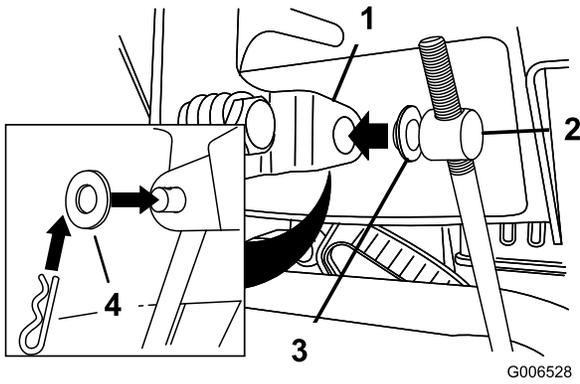

Figure 11
3. Remove the hairpin cotter and the outer washer from the trunion on the upper end of the speed control rod (Figure 11).
Note: To make installation easier, leave the flat washer on the trunnion (Figure 11).
6. Lift up on the speed control rod and insert the trunnion into the hole in the speed selector lever (Figure 11).
- B. Disconnect the trunnion from the speed selector lever (Figure 11).
- C. Turn the trunnion downward (clockwise) on the speed control rod (Figure 11).
- D. Connect the trunnion to the speed selector lever (Figure 11).